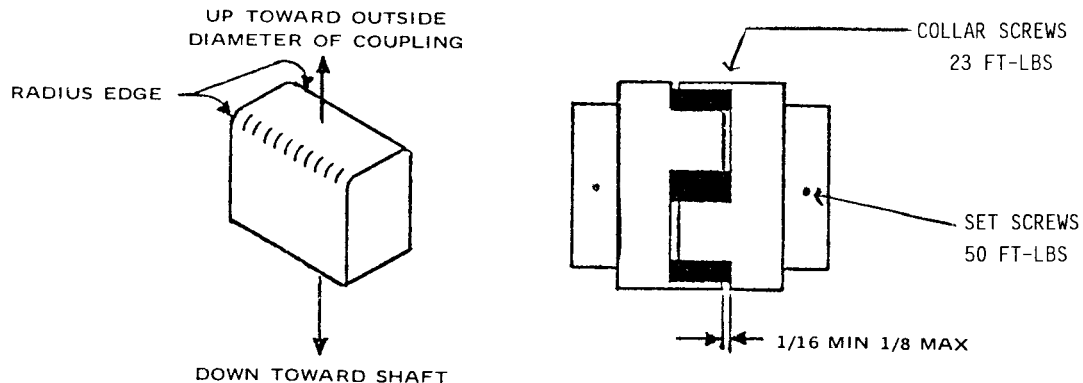

FIGURE 1-7 - INSTALLATION OF COUPLING CUSHIONS
COUPLING - The motor and compressor are direct connected by a resilient type flexible coupling of the individual cushions design. See Figure 1-7 above. Coupling does not require lubrication.
Individual Cushion Design (Figure 1-7)
3. Working through coupling guard opening, center coupling over gap between shafts, maintaining gap as shown in Figure 1-7 between the ends of the jaws on one coupling body and the flange on the opposite coupling body. Tighten set screws in each coupling body.
4. Insert individual cushions as shown in Figure 1-7 and slide collar over cushions and secure with cap screws. Reinstall the coupling guard.